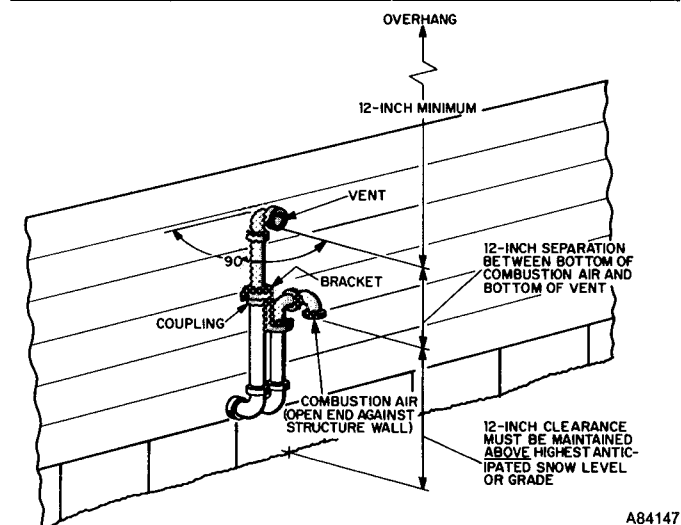
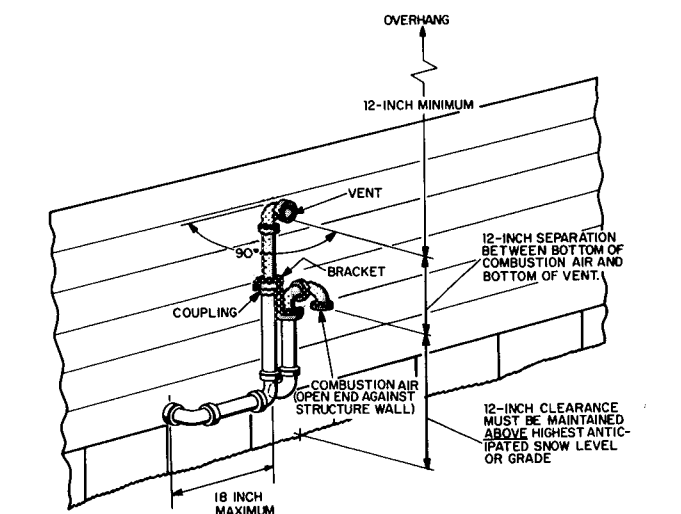

Fig. 6—Sidewall Termination Below Snow Level or Too Close to Grade (Preferred)
Fig. 7—Sidewall Termination Below Snow Level or Too Close to Grade (Option)
3. Sidewall terminal installation when combustion-air and vent pipes exit through sidewall below highest anticipated snow level or grade. See Figs 6 and 7.
NOTE: The arrangement in Fig. 6 is preferred. The arrangement shown in Fig. 7 is an option for the vent pipe only.
- d. Loosely install U-fitting and bracket as shown in Fig. 6. Position U-fitting so open end is against structure wall.
- e. Loosely install vent pipe assembly in coupling as shown in Fig. 6 or 7.
- f. Check required dimensions as shown in Fig. 6 or 7.
- h. Install bracket as shown in Fig. 6 or 7.